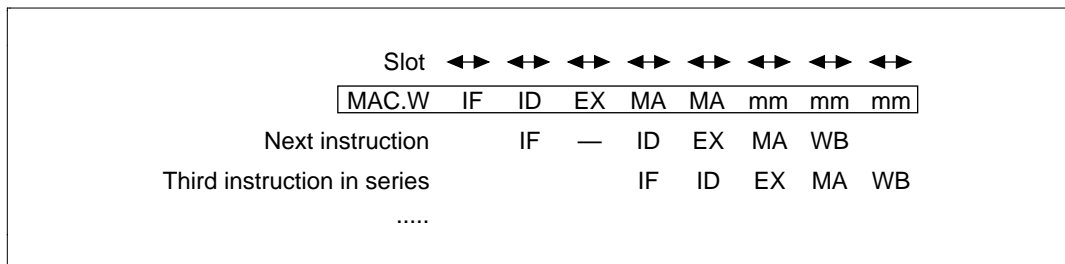

Figure 10-29 Multiply/Accumulate Instruction Pipeline
The pipeline has eight stages*: IF, ID, EX, MA, MA, mm, mm, and mm (figure 10-29). The second MA reads the memory and accesses the multiplier. The mm indicates that the multiplier is operating. The mm operates for three cycles after the final MA ends, regardless of slot. The ID of the instruction after the MAC.W instruction is stalled for one slot. The two MAs of the MAC.W instruction, when they contend with IF, split the slots as described in section 10.2.1, Contention between Instruction Fetch (IF) and Memory Access (MA).